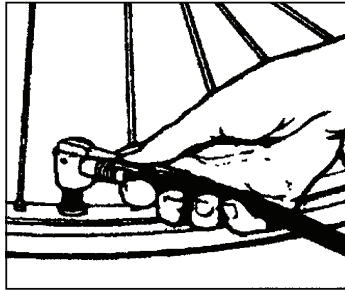

Figure 3
2. Use thumb to close Quick Connector, ensuring that the thumb latch is as far down as possible (Fig. 3).